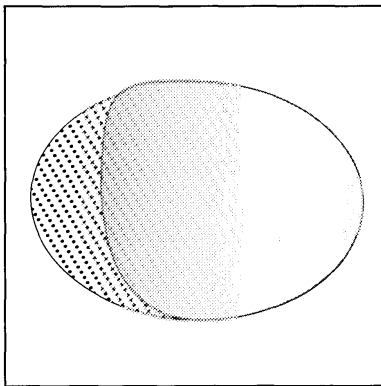

FIGURE 4
3. If your speaker model features a removable fabric scrim, carefully remove it by peeling it away from the inside of the grille. Place this on a clean, flat surface where it will not get wrinkled. [Figure 4]